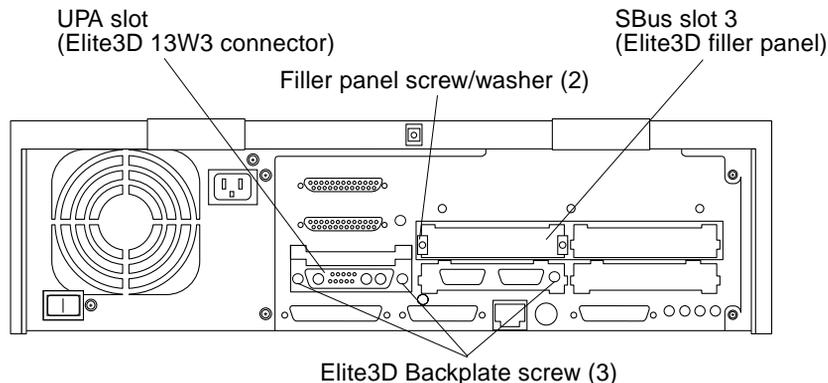

FIGURE 1 Ultra 2 Back Panel
1. **Locate the UPA bus connector on the Ultra 2 motherboard (FIGURE 1).**
3. **Remove the Ultra 2 filler panel on slot 3 (FIGURE 1).**
Note – The cosmetic strip side must face the chassis exterior (FIGURE 1).
11. Using a number 2 Phillips-head screwdriver, secure the Elite3D backplate connectors to the chassis with the provided screws (FIGURE 1).
13. Connect the monitor cable to the Elite3D 13W3 monitor connector (FIGURE 1).